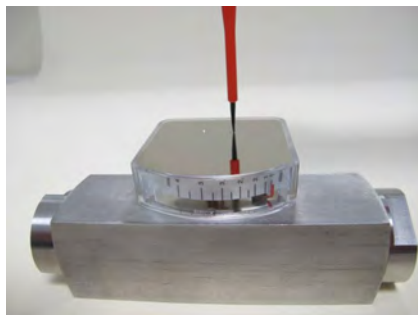

Fig. 66
25. ▶ Fasten the screws securing the display cover plate (Fig. 66), observing the proper tightening torque (↪ Chapter 11.1 "Tightening torque" on page 79).